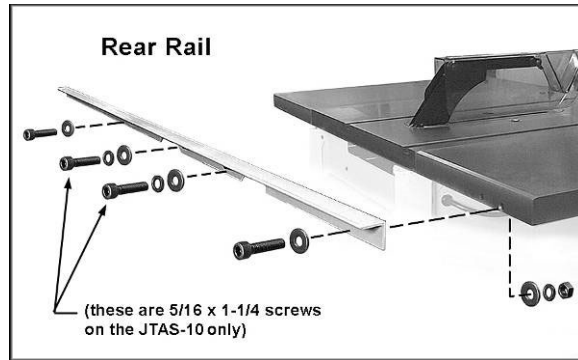

Figure 3
1. Place **rear rail** against back edge of table, making sure the notches in rail are properly oriented. See Figure 3.